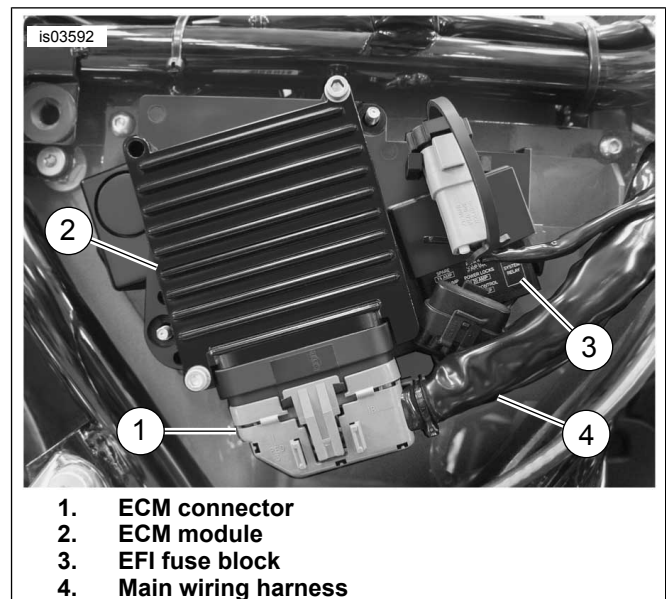
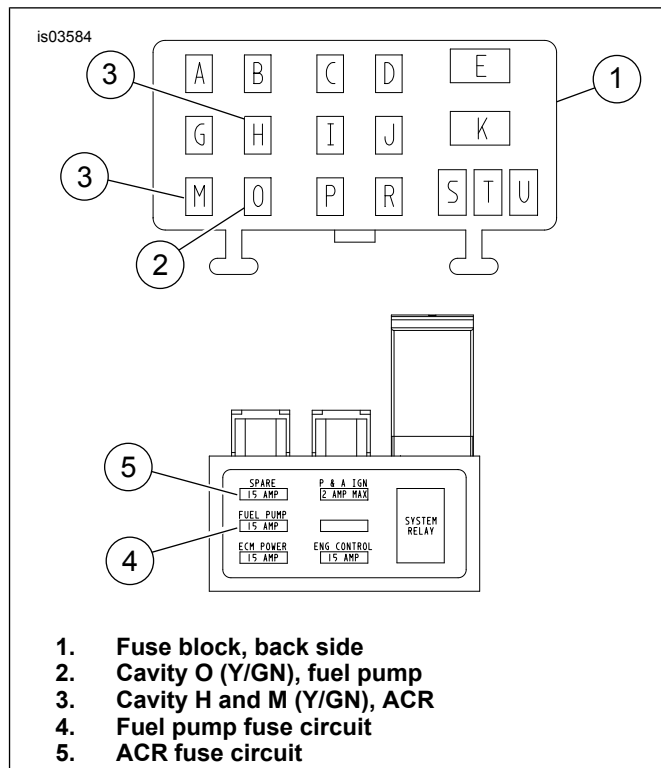

Figure 6. Electrical Bracket Assembly
Figure 10. EFI Fuse Block (Modified)
3. See Figure 6. Disconnect electronic control module (ECM) connector from ECM module (2).
6. See Figure 6. Remove Electronic Fuel Injection (EFI) fuse block (3) from electrical bracket assembly.
1. See Figure 10. Install fuel pump fuse (Y/GN) terminal wire previously removed from cavity H into spare fuse cavity O (2).
2. Install Y/GN terminal wires from ACR overlay wire harness into cavities M and H (3).
3. Install fuel pump fuse (4) and ACR fuse (5) (formally spare fuse) into EFI fuse block.
4. See Figure 6. Install EFI fuse block (3) on electrical bracket assembly.
7. Reconnect electronic control module (ECM) connector (1) to ECM module (2).